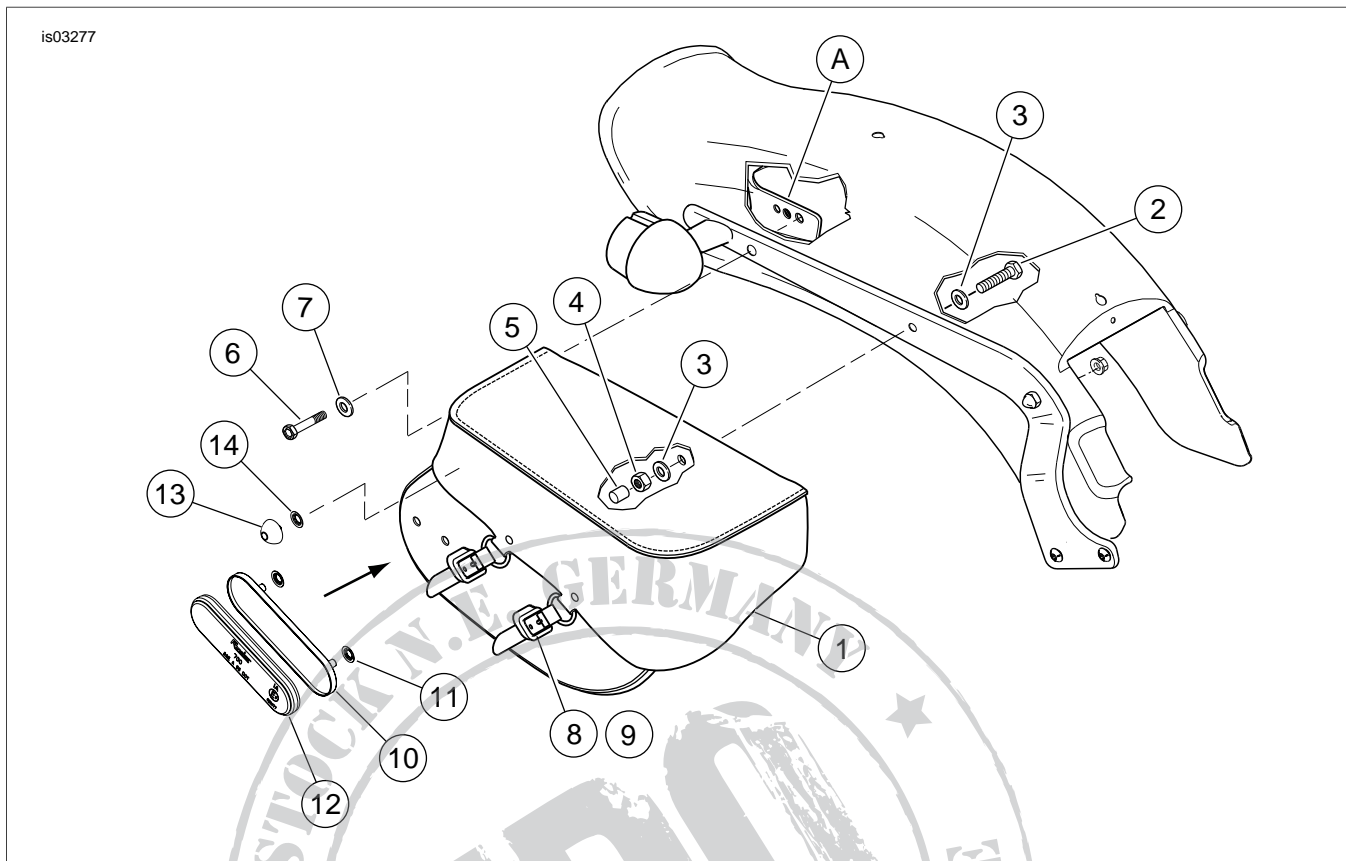
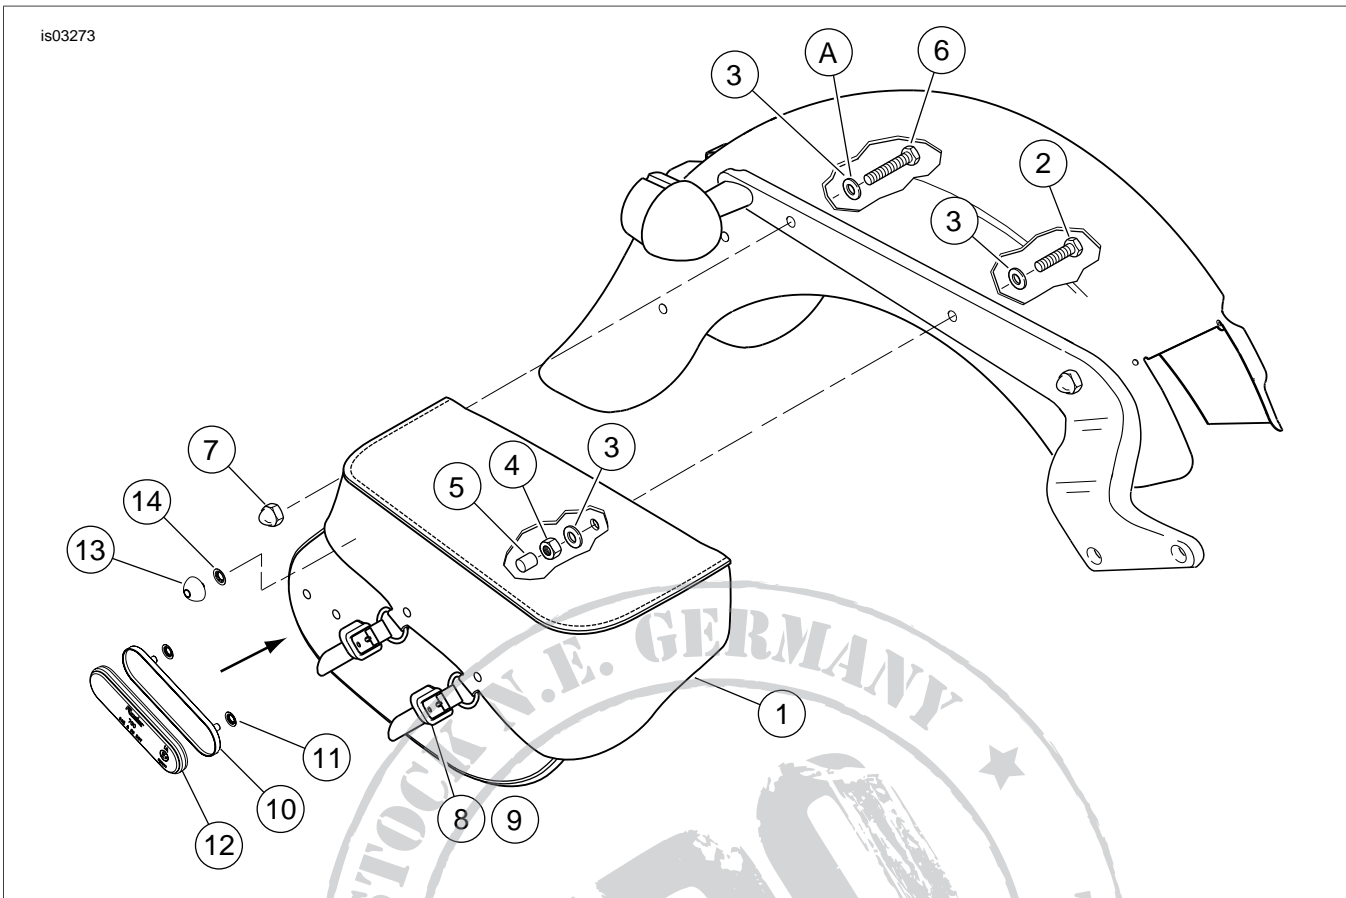

Figure 5. Service Parts: Softtail Saddlebag Kits (Installation Shown on 2000-2002 FXST Models)
Figure 6. Softtail Saddlebag Kits (Installation Shown on 2000-2002 FLST and 1984-1999 FLSTF, FXST Models)
2. See Figure 5 and Figure 6. Attach front of saddlebag (1) to fender using screw (2) washer (3) and nut (4).
- b. **FXST models:** See Figure 5. Use the correct screw (6) and washer (7) as shown. The screw threads into the insert in the license plate bracket (A). Hand-tighten to keep in place.
5. See Figure 5 and Figure 6. Slip the thread protector (5) over the end of front screw (2).
1. See Figure 5 through Figure 9. Position reflector mount on lower right corner of saddlebag.